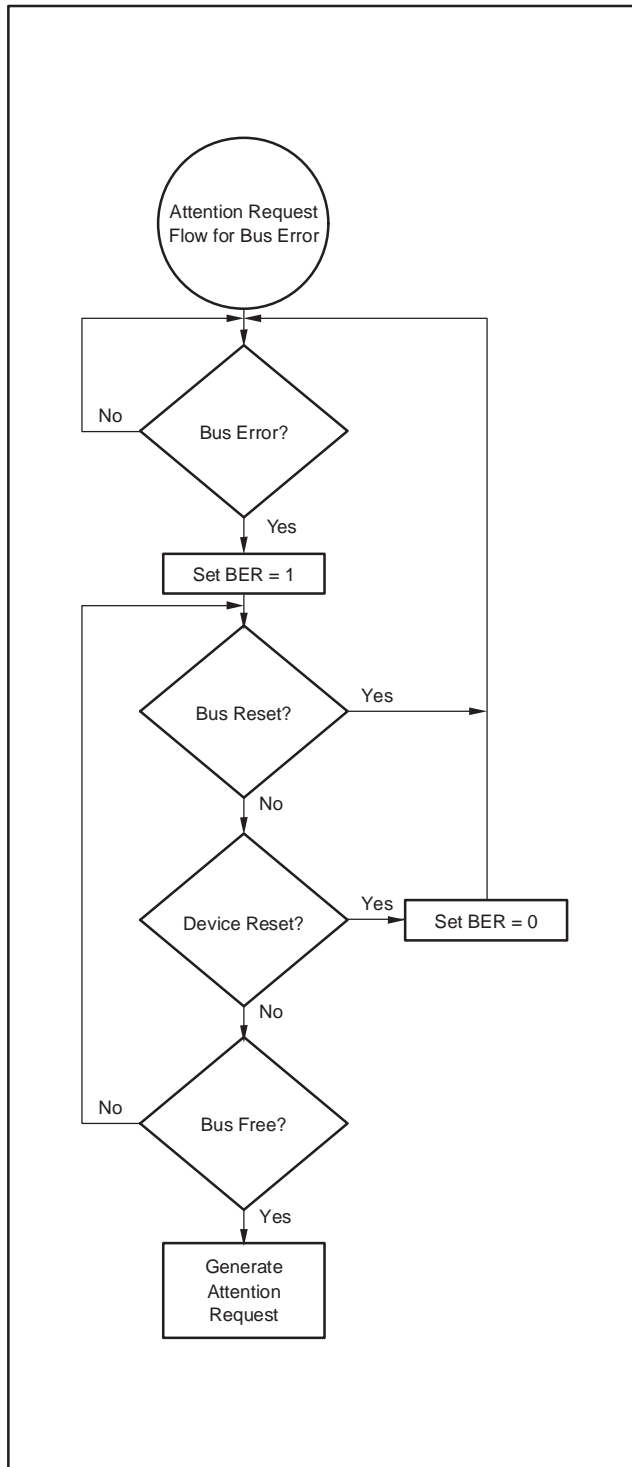
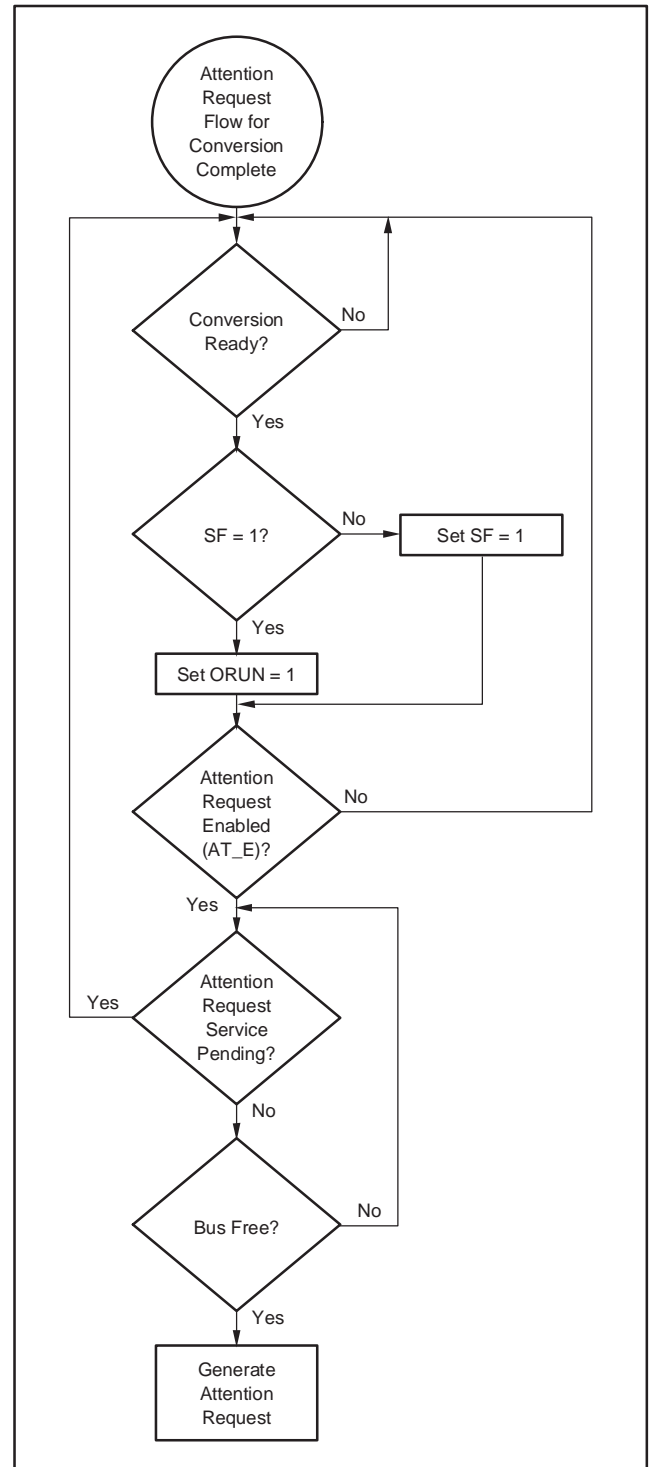

Figure 4. Attention Request Generated by a Bus Error
Figure 5. Attention Request Generated by a Conversion Complete
**Bit 0, Attention Enable (AT\_E):** Default is disabled. When this bit is set, and the sensor is enabled (bit 1), the TMP141 will generate Attention Requests. If enabled, an Attention Request will be generated when a bit is set in the Device Status register (register 4). See Figure 5 for the details on the conditions for generating an Attention Request.
(For more information on the Attention Request conditions, see the flowcharts in Figure 4 and Figure 5, and the information on Exception Handling on page 14.)
The rules for generating an Attention Request are different, depending on whether it was caused by a bus error or a temperature conversion. A bus error always attempts to generate an Attention Request, whereas a conversion or a conversion overrun has several conditions that may prevent the assertion of Attention Request. These differences are illustrated in Figure 4 and Figure 5.